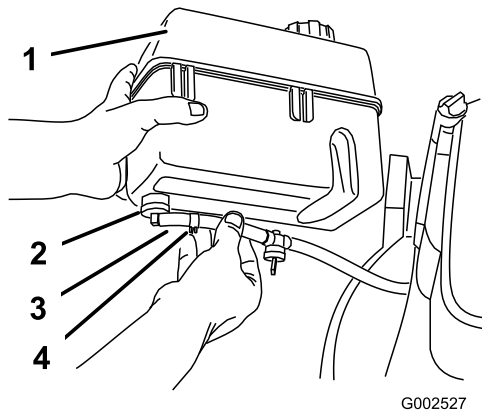

Figure 4
- Slide the end of the fuel line onto the elbow fitting (Figure 4).
- Secure the fuel line in place with the fuel line clamp (Figure 4).